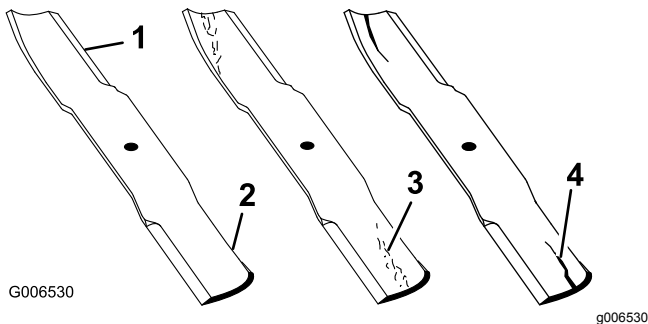

Figure 89
1. Inspect the cutting edges (Figure 89).
4. If you notice any cracks, wear, or a slot forming in this area, immediately install a new blade (Figure 89).